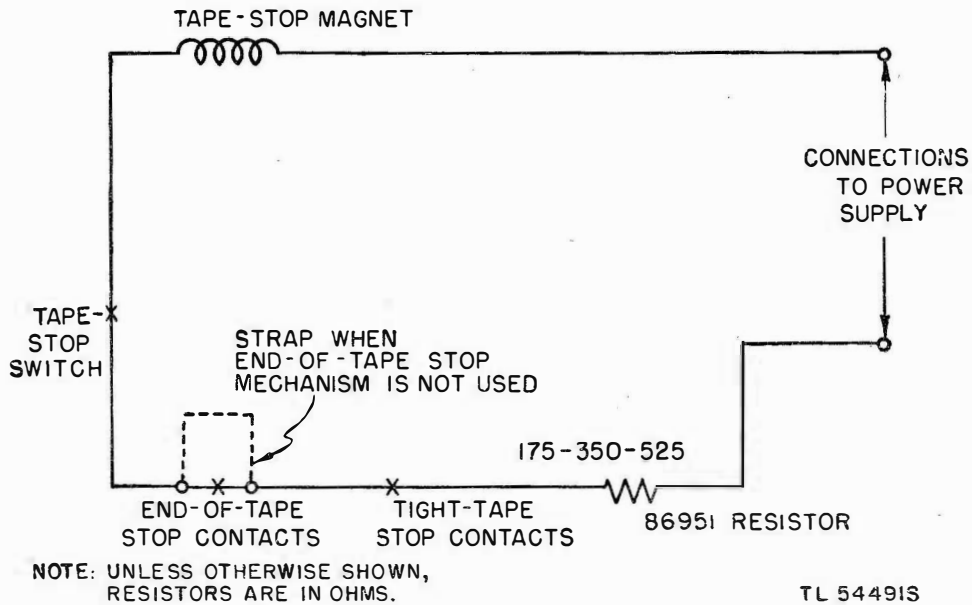

Figure 31. Transmission control circuit for Transmitter Distributor TT-52/FG and XD82 type transmitter distributor, schematic diagram.
is de-energized, the spring pulls the stop arm against the stop cam in the path of the stop cam lug of the stop cam. The main shaft stops revolving when the stop cam lug engages the stop arm. Operation of the tape-stop magnet is controlled by closing or opening the series circuit which includes the tight-tape stop mechanism, tape-stop switch, the end-of-tape stop mechanism (when used), and the No. 86951 resistor. Each is described in the following paragraphs. The transmission control circuit for Transmitter Distributor TT-52/FG and XD82 type transmitter distributors is shown in figure 31.
- (3) An open may develop in any one of several parts of the control circuit (fig. 31). Check the stop magnet, the tape-stop switch, and the resistor. Sometimes the tight-tape stop contacts and the end-of-tape stop contacts get dirty and fail to close a circuit completely. The control circuit may extend through slip connections to another piece of equipment for the purpose of controlling the transmitter distributor in relation to the other equipment. Check such circuit extensions, especially whether proper connections are made. Check slip connections for dirty or bent contact springs.